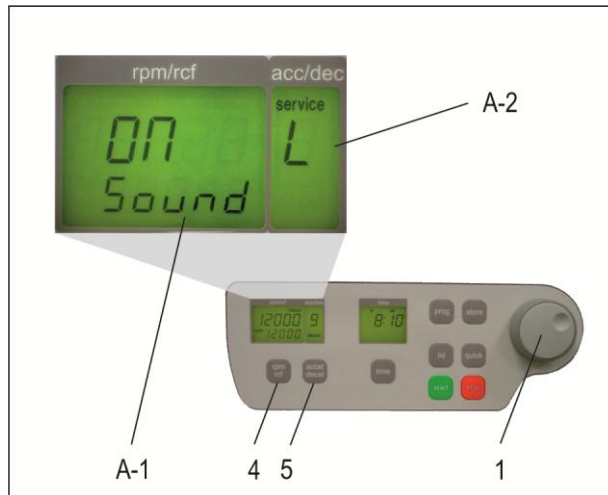

Figure 5
Proceed as illustrated, under point 1.8.2, to enter this program mode, press the key; "accel/decel" (5). In the display, "accel/decel" (A-2) flashes the word, "service". Select the letter, "L" with the adjustable knob (1). As a result, appearing in the display "rpm/rcf" (4), are the words, "On Sound". By pressing the key, "rpm/rcf" (4), the word "On" flashes, and the sound can be switched off with the adjustable knob (1), (see Figure 5).